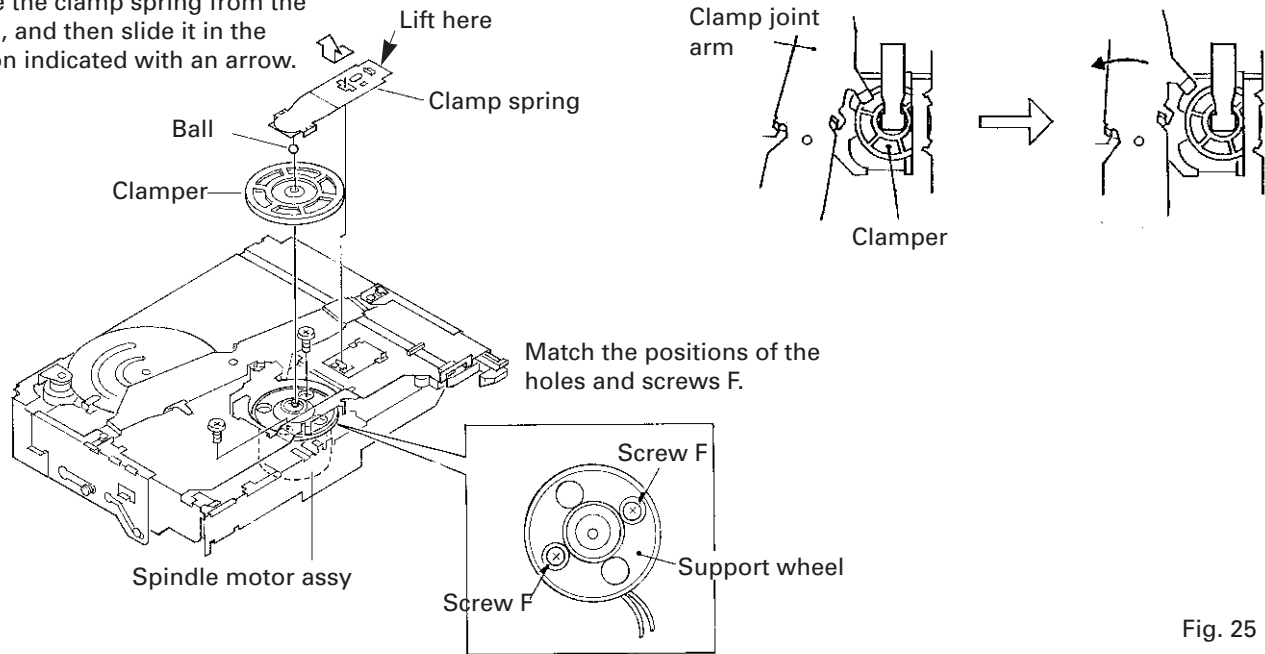

Fig. 25
2. Slide and remove the clamp spring as shown in Fig. 25.